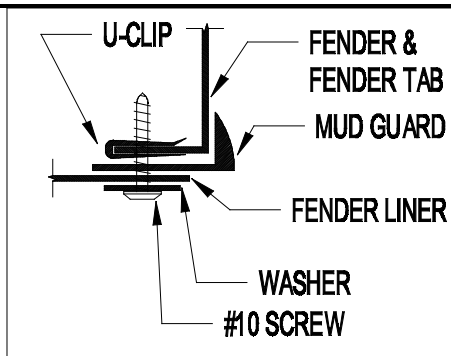

Figure 2
5. Install a U-clip at locations A, B, C, D, and E (Figure 2 and 3)